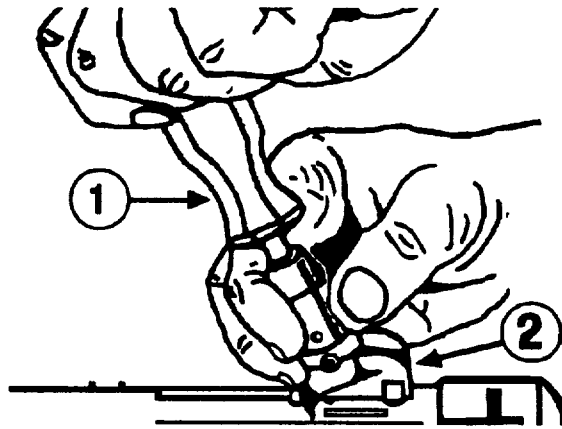

Figure 2-8. Elevation Adjustment
(1) Insert elevation adjustment tool (1), Figure 2-8, into the rear sight cylinder (2), in such a manner that the prongs of the tool engage the two detents in the cylinder, which contain the catch bolts. Press phillips-head screwdriver downward into the adjustment tool and hold firmly.
(2) Rotate rear sight cylinder manually in the desired direction (rotating clockwise lowers the strike of the round 1.4 cm {0.55 inches} per click at a range of 25 meters, rotating counter-clockwise raises it correspondingly).
(3) After performing the correction, withdraw phillips-head screwdriver and remove elevation adjustment tool. The catch bolts will then re-engage in the splines.
(4) After performing the elevation adjustment, re-set the rear sight cylinder to the desired aperture.